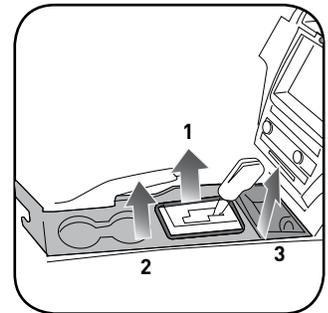

Fig. 1.4
4. Using a panel tool, pry upward to release and remove the plastic trim around the shifter. Unclip and remove the top of the center console (fig. 1.4)